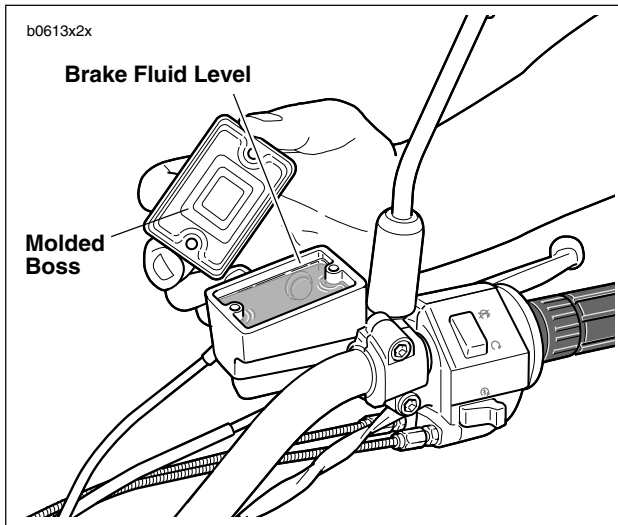

Figure 2-27. Brake Fluid Level
6. See Figure 2-27. With the master cylinder in a level position, add **D.O.T. 4 BRAKE FLUID**. Bring fluid level to within 0.125 in. (3.2 mm) of molded boss inside front master cylinder reservoir.